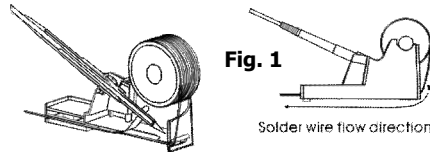

Fig. 1
1. Install solder wire to the solder iron holder. (Fig. 1)
2. Place soldering iron to the soldering iron stand as shown in Fig. 1